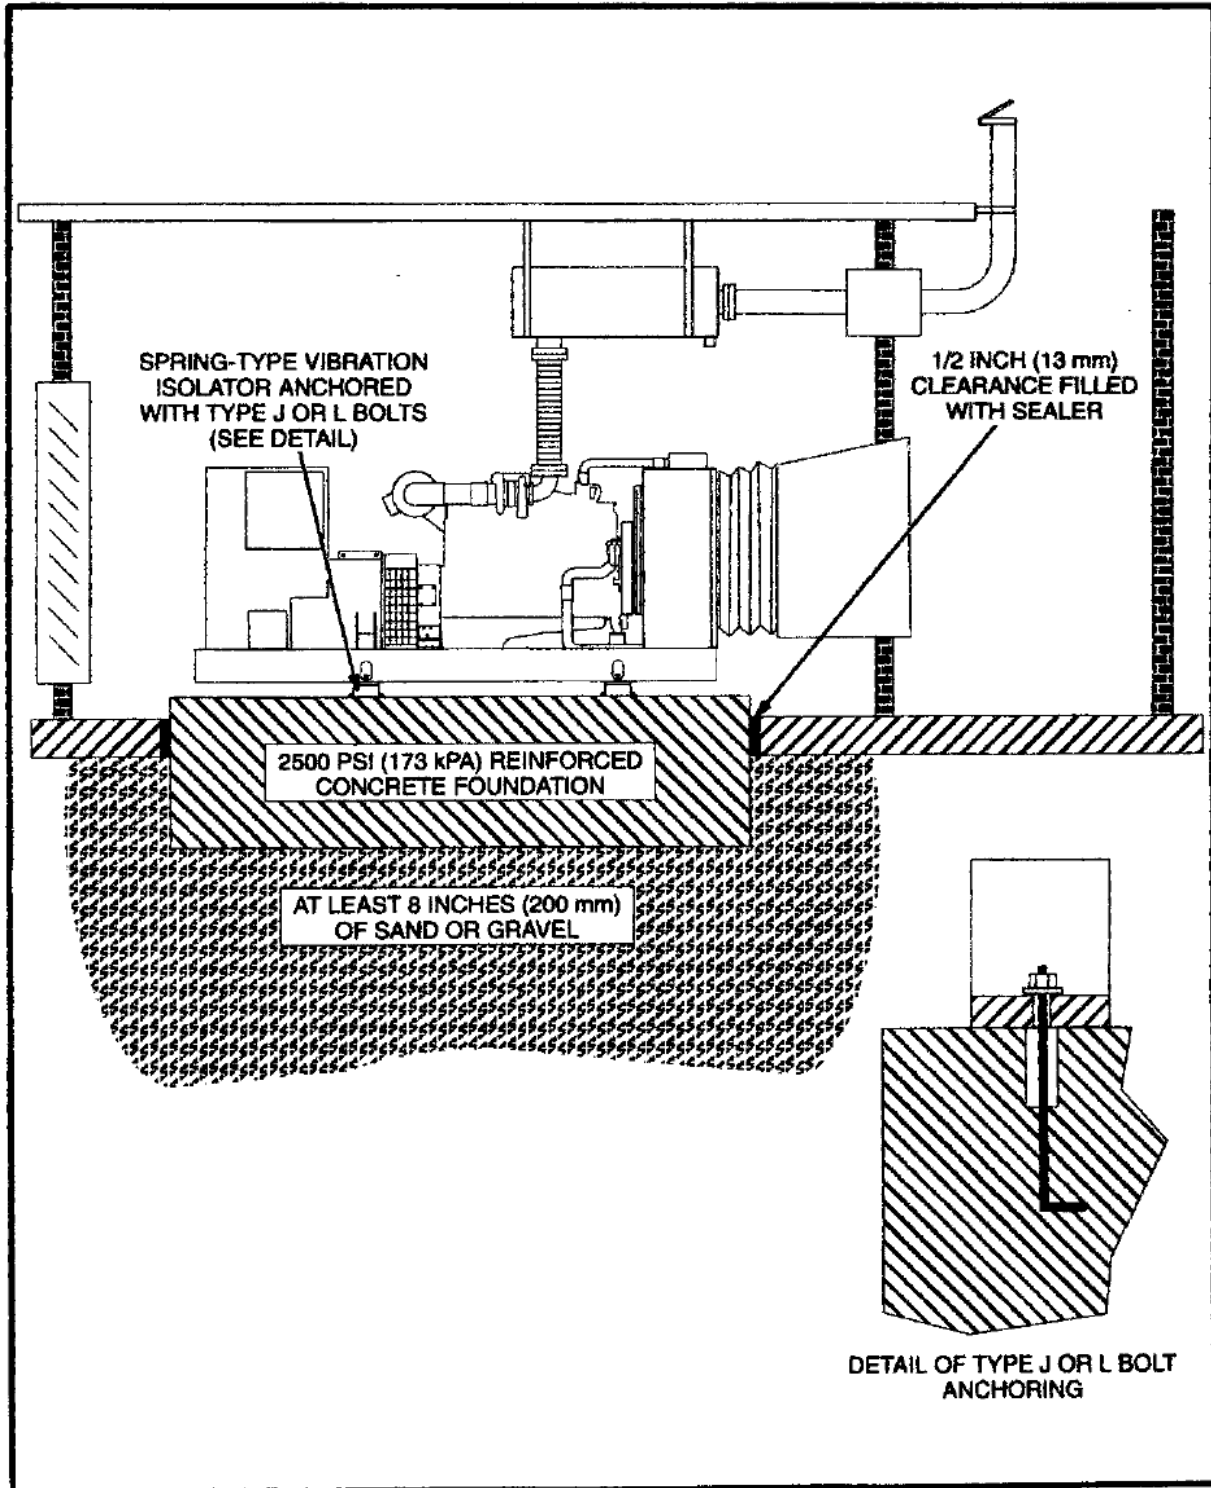

FIGURE 20
When a generator set is mounted on a foundation to reduce the transmission of vibrations to the building, the weight (W) of the foundation should be at least 2 times the weight of the set itself to resist dynamic loading. (The weight of fuel in a sub-base fuel tank should not be considered as contributing to the weight required of a vibration isolating foundation.) Figure 20 illustrates a typical vibration isolating foundation. Consider the following:
- The foundation should extend at least 6 inches (150 mm) beyond the skid on all sides. This determines the length (L) and width (W) of the foundation.
- Calculate the height (H) of the foundation necessary to obtain the required weight (W) by using the following formula: